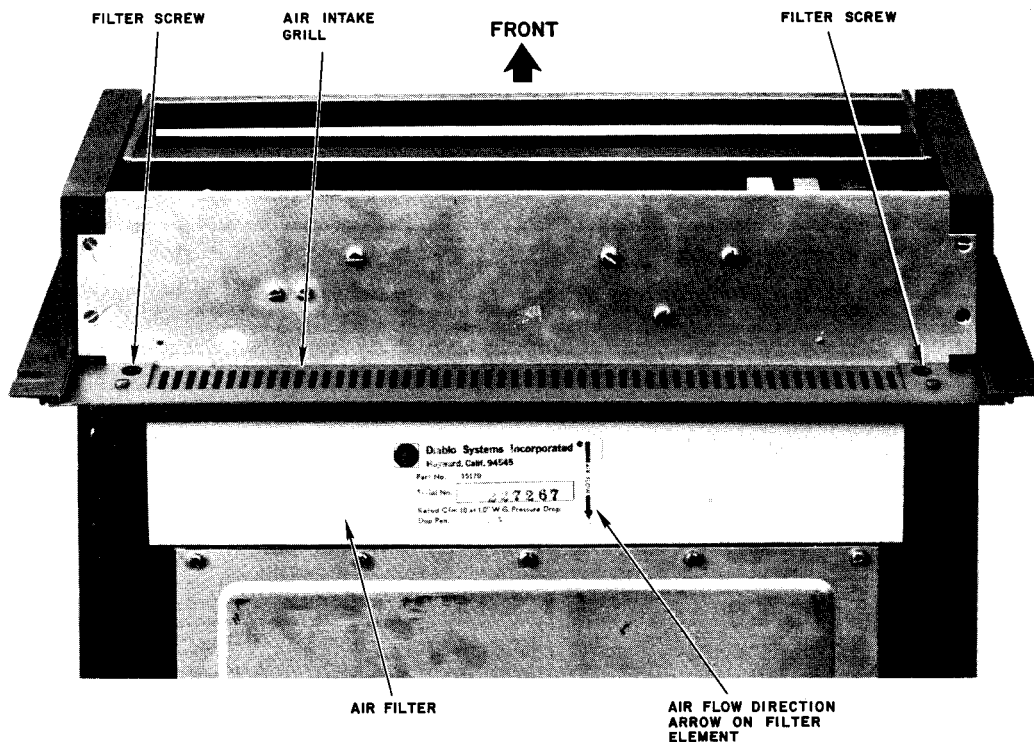

Figure 5-2 AIR FILTER REPLACEMENT
3. Refer to Figure 5-2. Loosen the two filter screws to release the filter clamps.